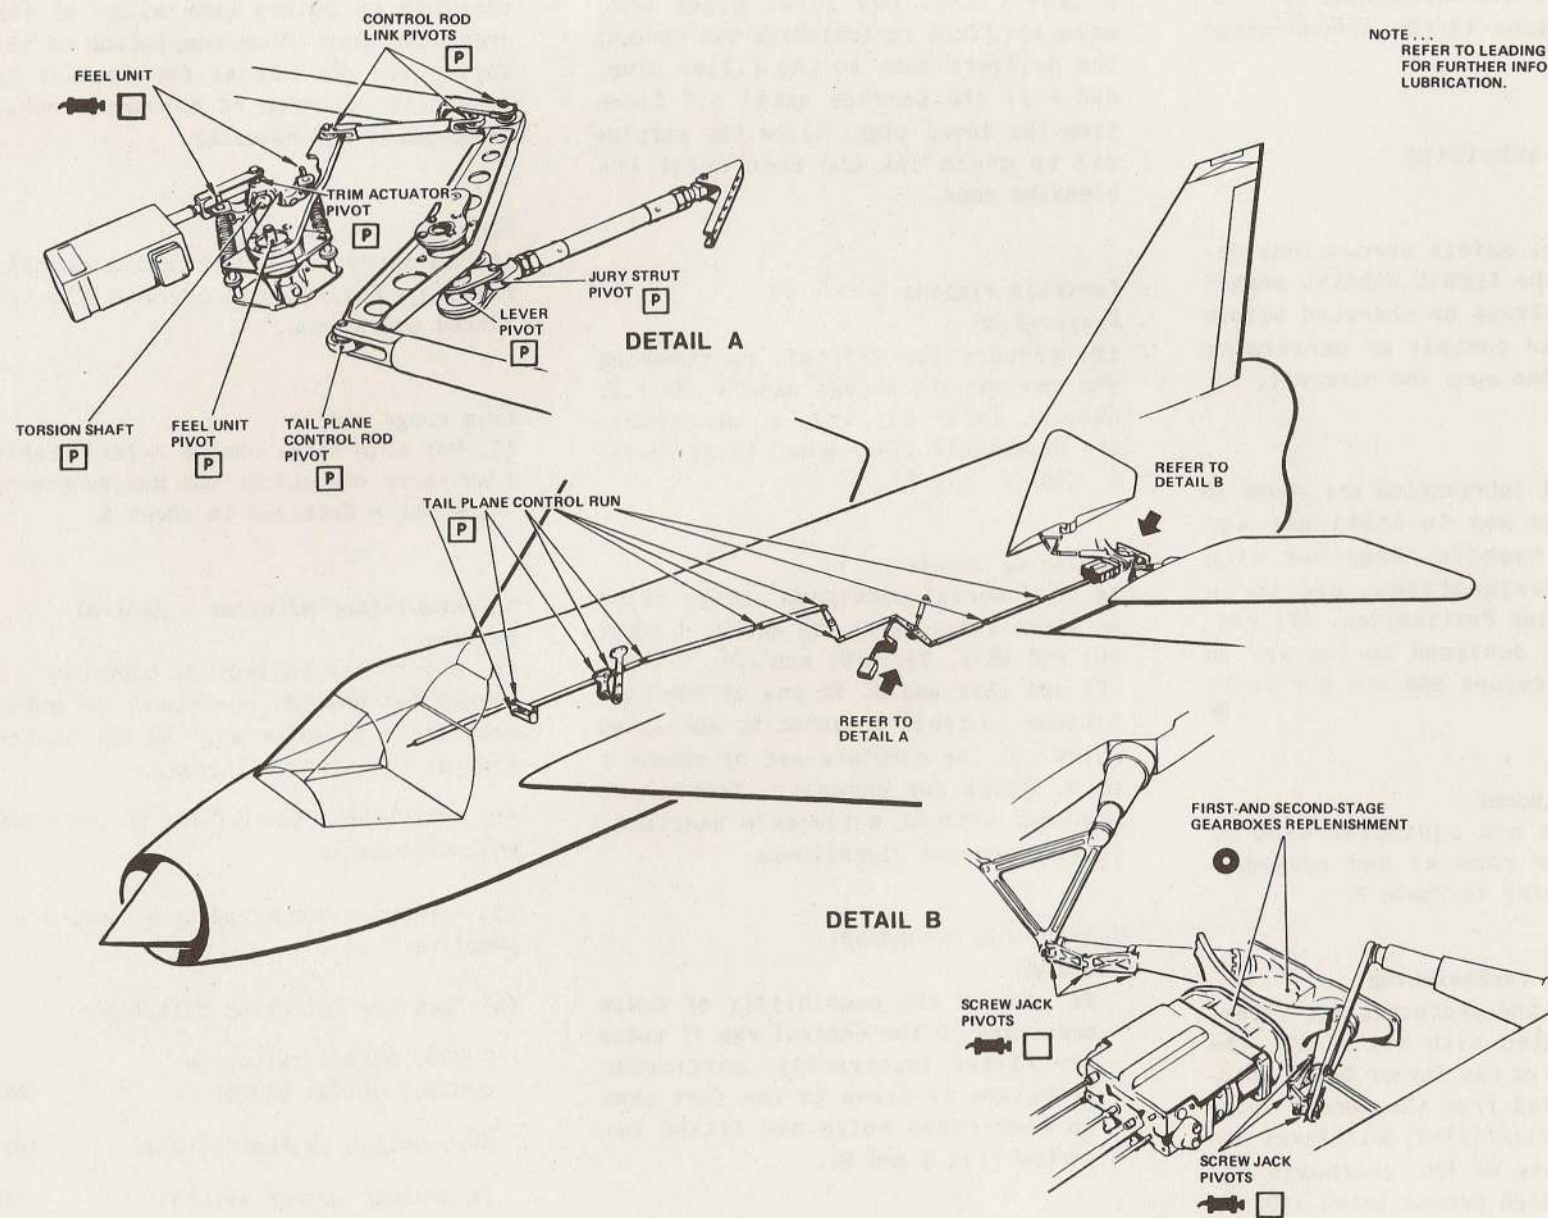

FIG.5. LUBRICATION OF CONTROLS
- ◀ 10. Details of lubrication are shown in fig.5 and the key to lubricant and application symbols, together with their full designations, are to be found in Leading Particulars. All control rods are designed to run dry in their roller guides and are not to be lubricated. ▶